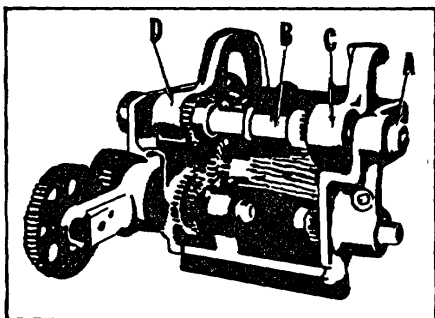

Fig. 41.
- Loosen set screw in collar (A) Fig. 41, and remove the collar.
- Slide the shaft (B) to the left as viewed in Fig. 41, and remove and replace the tumblers (C) and (D).